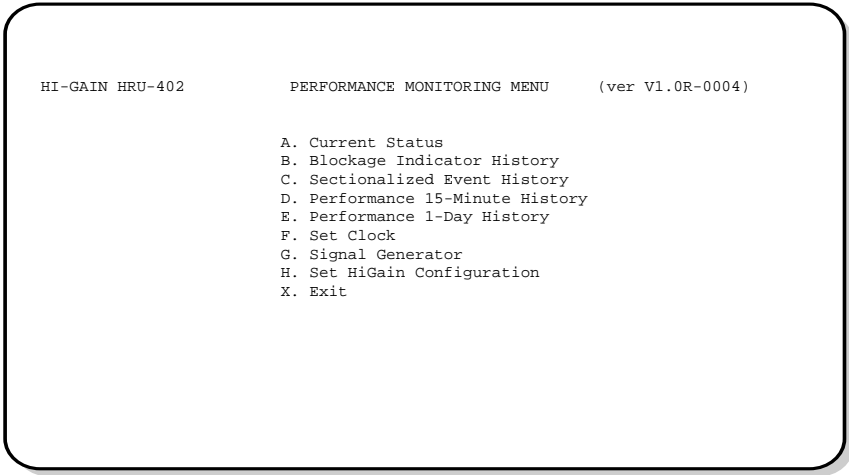

Figure 8. Performance Monitoring Menu
- 1 Press the **TAB** key at the Remote Login screen. The Performance Monitoring Menu appears (Figure 8).